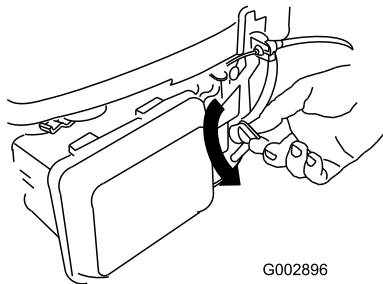

Figure 12
1. Turn the fuel valve lever to the On position (Figure 12).